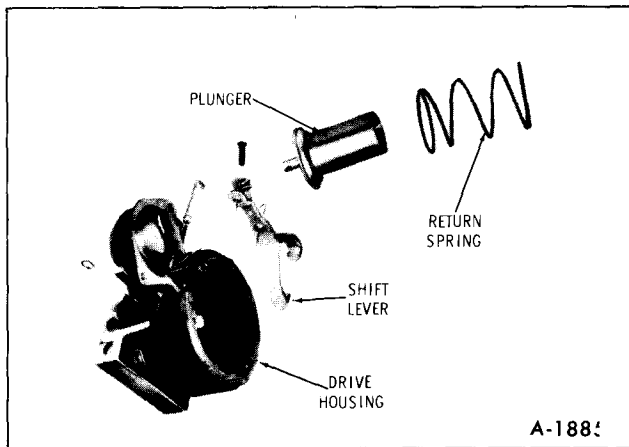

Figure 72—Shift Lever Removal
b. To remove shift lever and/or plunger, remove shift lever pivot bolt (figure 72).
- b. Position shift lever and plunger assembly in drive gear housing and install lever pivot bolt. (figure 72)